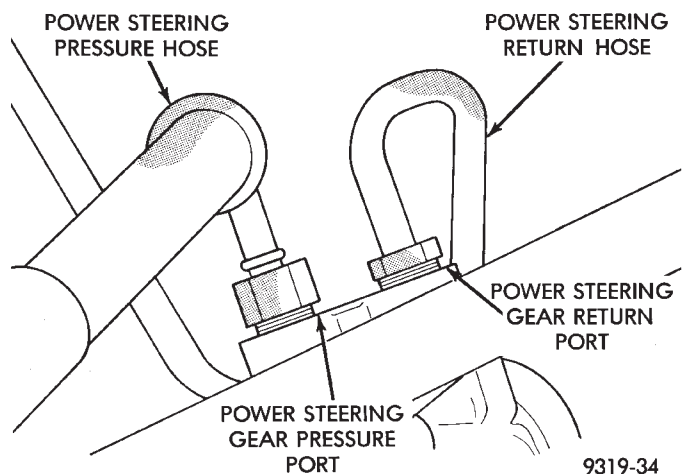

Fig. 10 Power Steering Hose Connections At Steering Gear
(16) Loosen and remove the 2 nuts attaching master cylinder assembly to brake booster. Remove master cylinder assembly with brake lines connected from the brake booster assembly. Carefully position the master cylinder assembly against left shock tower.
(17) Remove power steering pressure hose and return hose from power steering gear (Fig. 10).